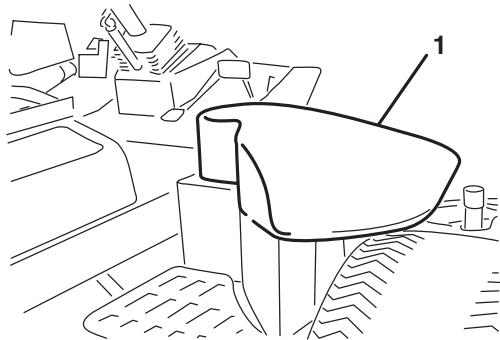

Figure 1
2. On the right side of the machine, raise the hydraulic tank cover (Fig. 1).